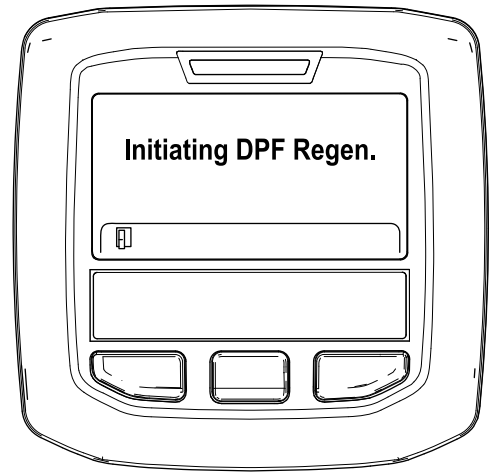

Figure 54
- A. The "Initiating DPF Regen." message displays (Figure 54).